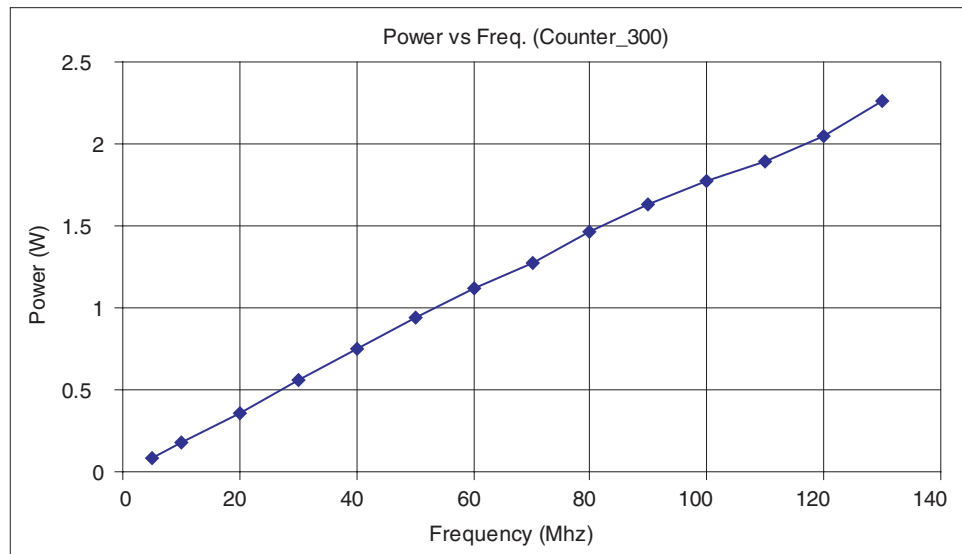

Figure 20: Power Consumption
Figure 20 exhibits the power consumption in an Eclipse QL6250 device. The chip was filled with (300) 8-bit counters—approximately 76% logic cell utilization.